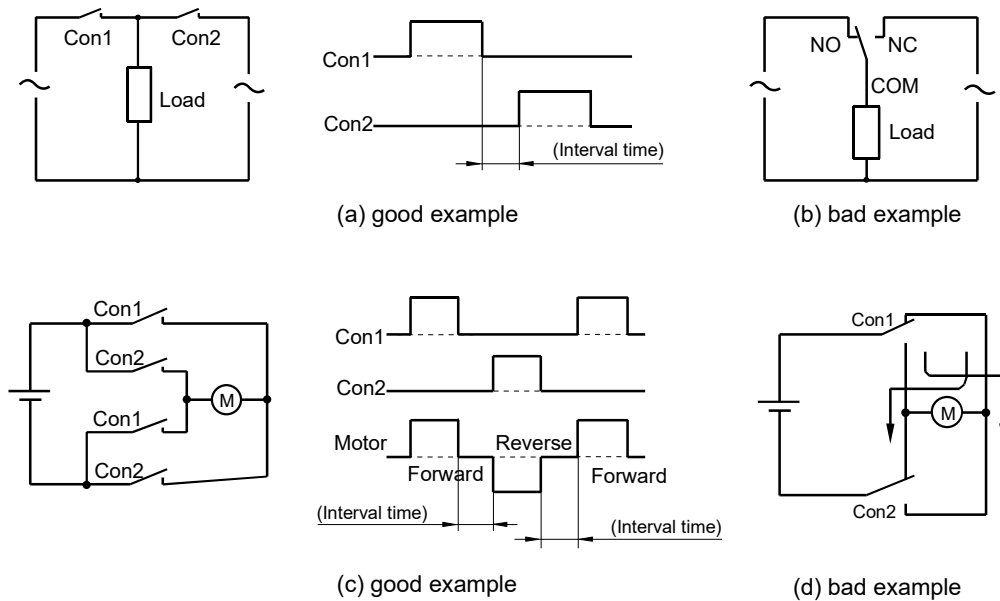

Figure 6
In the electrical circuit, the following points should be considered (seen in the figure 6)
1) Generally the gap between the contacts are small. The reason can probably be that the electrical arc between the contacts results in the short circuit. Please do not adopt the circuit shown in figure 6(b). The circuit shown in figure 6(a) is suggested to use and the certain interval can be set in the operation between Con1 and Con2.
3) Care should be taken that the two pairs of switching contacts are not used to build the forward circuit and the reverse circuit, as shown in figure 6(d). Suggest that the circuit shown in Figure in 6(c) is applied and the certain interval is set in the operation between Con1 and Con2.